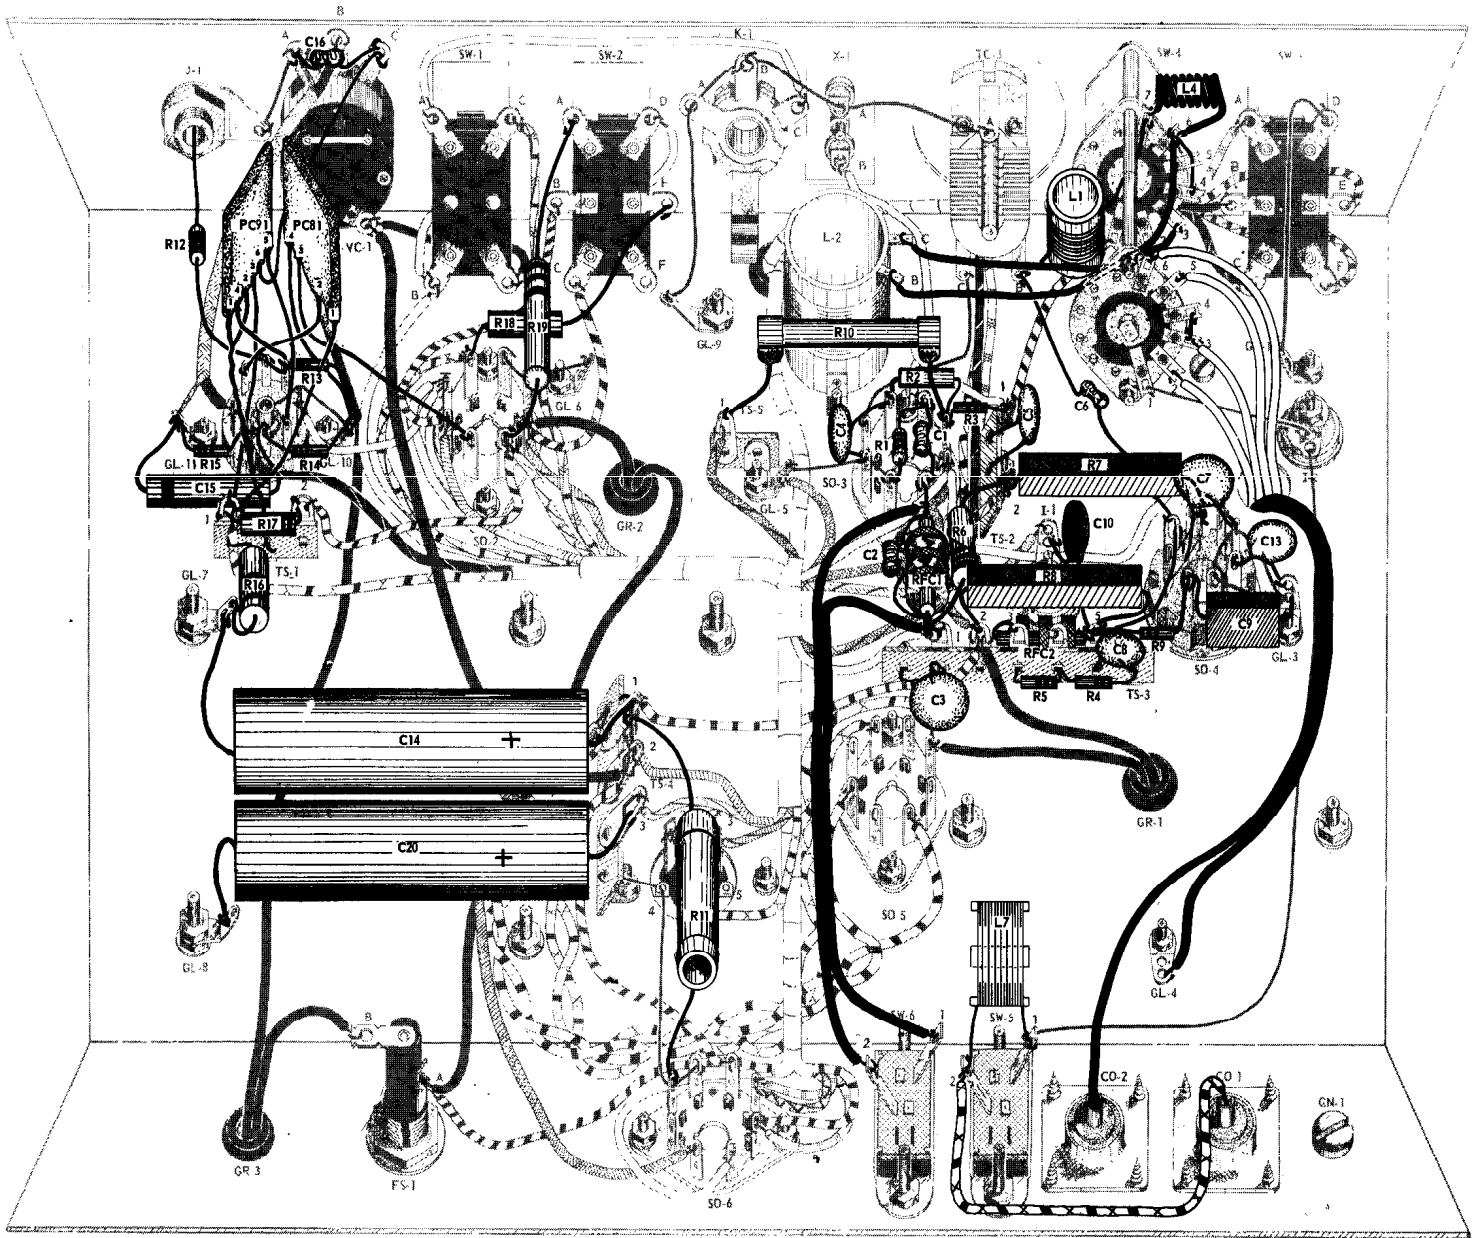

Figure 21. Wiring, Steps 105 through 158.
- ☐ 102. Route one AC line cord lead to lug E of VC-1. Run the lead under the harness wiring so it is held in place. Connect the end to lug E of VC-1. (S).
- ☐ 103. Route the remaining AC line cord lead to lug B of the fuse holder FS-1. Trim the lead to length and remove $\frac{3}{8}$ " insulation from the end. Connect to lug B of FS-1. Wrap securely. (S).
- ☐ 104. Wrap up the AC cord as it was so it will not become entangled when turning the chassis over. Refer to Fig. 21 for further wiring.
- ☐ 105. Select a 12 mfd-700 V. capacitor (C20). Trim each lead to 1" in length. Connect the lead from the positive (+) end of this capacitor to lug 3 of the strip TS-4. Connect the negative lead to grounding lug GL-8. Wrap securely at both points. (S).
- ☐ 106. Select the remaining 12 mfd-700 V. capacitor (C-14). Trim each lead to 1" in length. Connect the negative lead to grounding lug GL-7. Connect the positive (+) lead to lug 1 of the strip TS-4. Wrap securely at both points. (NS).
- ☐ 107. Connect the 50,000 ohm, 10 watt resistor, (R11) from lug 1 of the lug TS-4 to pin 1 of socket SO-6. Wrap securely at both points. (S).